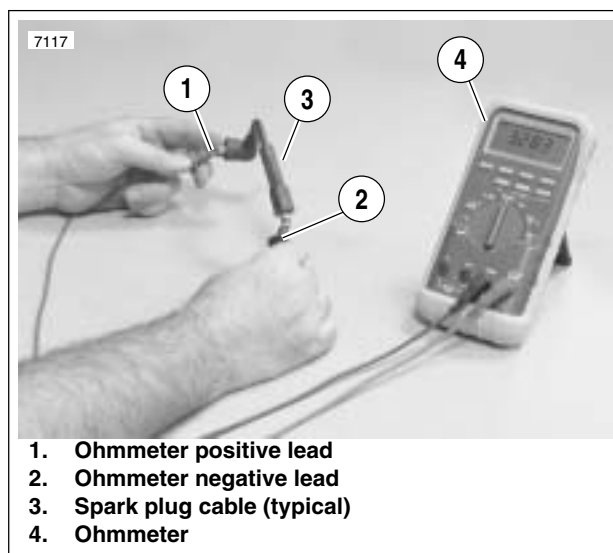

Figure 7-9. Testing Resistance
3. See Figure 7-9. Check spark plug cable resistance with an ohmmeter. Replace cables not meeting resistance specifications.